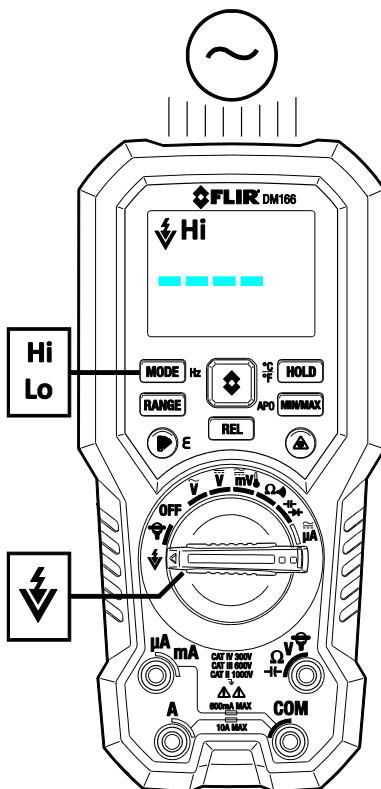

Fig. 6-3 Non-Contact Voltage Detector
1. Set switch to the NCV ⚡ position. See **Figure 6-3**.